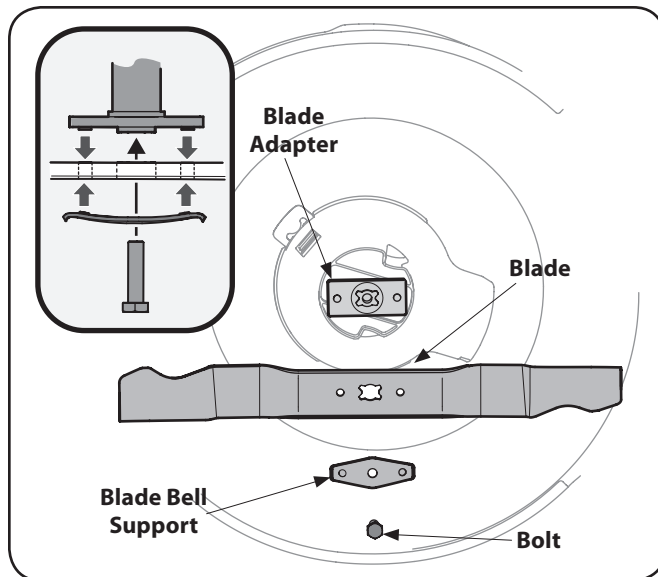

Figure 7-1
2. Remove the bolt which holds the blade and the blade adapter to the engine crankshaft. See Fig. 7-1.
3. Remove blade and adapter from the crankshaft. See Fig. 7-1.